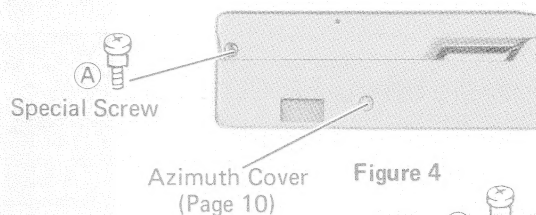

Figure 4
1. Remove two screw (A) from both sides of the front cabinet to take it out. (Figures 4 and 5)